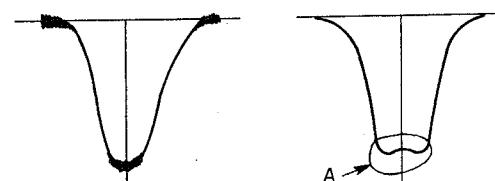

Fig. 9
- In item 1, set the capacitance of the variable capacitor to minimum and adjust red and blue cores of T151 so that the waveform is as shown in Fig. 9. As T151 contains a 455kHz ceramic filter, sometimes the center of the marker will not correspond to that of the waveform.